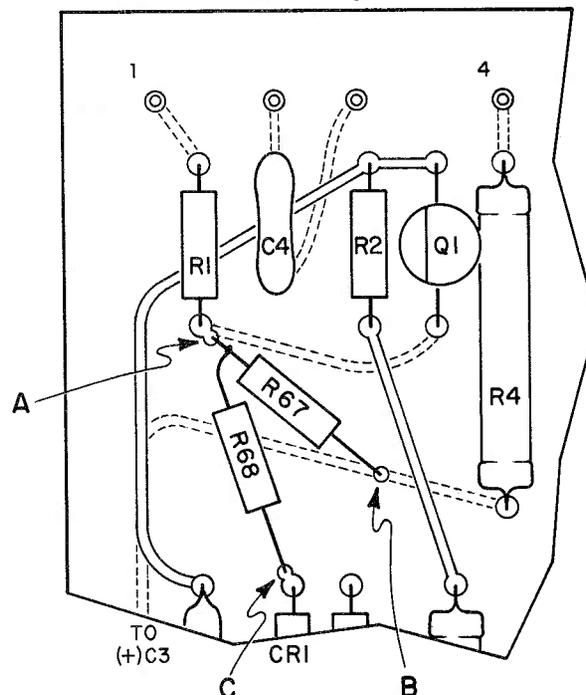

Figure 1. Board Location of R67 and R68
a. Position A1 board with component side up and pins 1 through 23 across the top. See Figure 1 below; locate points A, B, and C. These points are in the upper left hand corner of the board.
Referring to Figure 1, install R67 and R68. Solder points A, B, and C. Points A and C should be soldered on both sides of the board. Clean flux from solder joints.